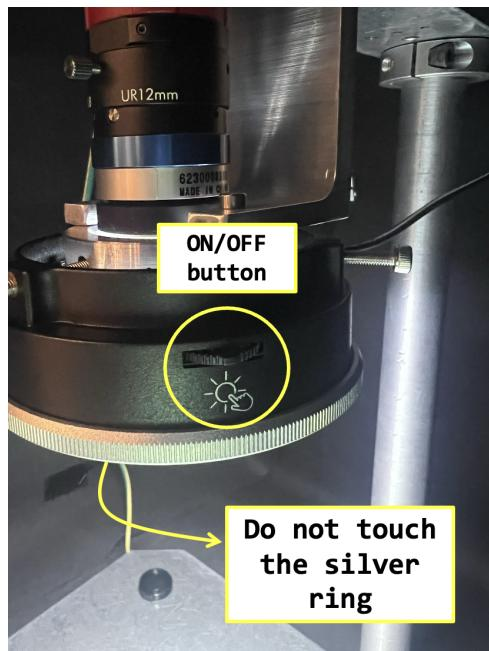

Figure 7: LED Polarizer Light ON/OFF button.
- 2) Turn on the Polarized LED Ring Lamp: Carefully press the lamp's ON/OFF button. Make sure **not** to rotate the polarizer when you press its ON/OFF button, as it is already set at the correct angle for optimal picture-taking (see Figure 7).